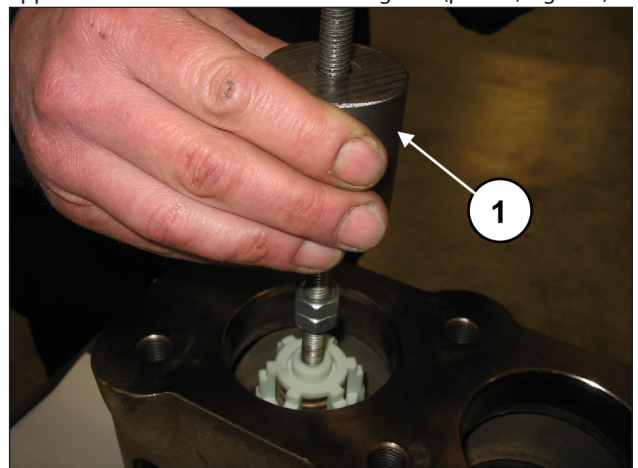

Fig. 110
Extract the outlet valve unit with an extractor hammer to be applied on the M10 hole of the valve guide (pos. ①, Fig. 110).